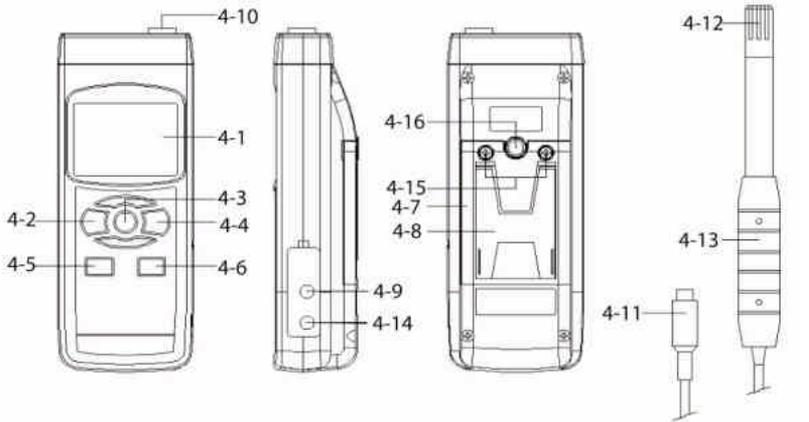

Fig. 1
1. Plug the "Probe Plug" (4-11, Fig. 1) into the "Probe Input Socket" (4-10, Fig. 1).
2. Power on the meter by pressing the "Power Button" (4-2, Fig.1) for 2 seconds. The LCD will show the units of measure on the display after a quick self test. It will display the %RH in the main display and temperature in the bottom section of the LCD.
To measure DEW Point follow the instructions shown in section 4-3 and then press the "Function Button" (4-5, Fig. 1) momentarily once. The LCD will show the word DEW in the main display and temperature below.
While taking measurements you can freeze the displayed value by pressing the "Hold Button" (4-3, Fig. 1) once. The HOLD symbol will be displayed along with the held measured value on the LCD. By pressing the "Hold Button" (4-3, Fig. 1) a second time will release the displayed value and turn off the data hold function.
1. To record the maximum and minimum readings, press the "REC Button" (4-4, Fig. 1). The REC symbol will be displayed on the LCD. By pressing the "REC Button" (4-4, Fig. 1) you can toggle through the Max and Min values.
2. To delete the recorded values press and hold the "Hold Button" (4-3, Fig. 1) for about 3 seconds.
3. To stop using the REC function, press and hold the "REC Button" (4-4, Fig. 1) for at least 3 seconds.
1. Press and hold the "SET Button" (4-6, Fig.1) for about 3 seconds to enter the settings menu (you will see the word code on the bottom of the LCD).
2. Pressing the "Enter Button" (4-4, Fig. 1) will bring you to the unit of measure for temperature (see section 5-1 if you wish to change the unit of measure).
3. Press the "Logger Button" (4-6, Fig.1) and SEC will be displayed on the bottom of the LCD.
4. To cycle through the number of seconds you would like meter to wait between loggings, press the "Function Button" (4-5, Fig. 1). By pressing the "Function Button" (4-5, Fig. 1) the following number of seconds will be displayed on the top of the LCD: 1, 2, 10, 30, 60, 600, 1800 or 3600.
5. Once the number seconds you require is displayed on the LCD, press the "Logger Button" (4-6, Fig.1).
6. Press the "Enter Button" (4-4, Fig. 1) to exit the settings menu, then press the "ESC Button" (4-3, Fig. 1).
7. Press the "REC Button" (4-4, Fig.1) momentarily to start the data log function. The REC symbol will be displayed on the LCD. The data logger function can save up to 1000 values of measure (either Humidity & Temp. or Dew Point & Temp).
8. Press the "Logger Button" (4-6, Fig.1) and the meter will start logging. You will see the A flashing on the top of the LCD every time a logging event has occurred. The A flashing will match the number of seconds you set in the setup of the data logger function.
1. Press the "REC Button" (4-4, Fig.1) momentarily to start the data log function. The REC symbol will be displayed on the LCD. The data logger function can save up to 1000 values of measure (either Humidity & Temp. or Dew Point & Temp).
2. Press the "Logger Button" (4-6, Fig.1) every time you would like the meter to record a value. You will see an A flash in the top of the LCD. The meter will not record another measurement until you press the "Logger Button" (4-6, Fig.1) again.
1. Press and hold the "SET Button" (4-6, Fig. 1) for about 3 seconds until the LCD displays "Code". Once you release the button you should see 1000 in the main display. 1000 is the password code to allow advanced measuring procedures. To leave the setting menu press the "ESC Button" (4-3, Fig.1).
2. Press the "Enter Button" (4-4, Fig. 1).
4. Now you are in the setting area to set or change the temperature unit of measure. Pressing the "Set Button" (4-6, Fig. 1) will cycle through the following setting sections:
1. Press and hold the "Set Button" (4-6, Fig. 1) for about 3 seconds until you see the word "COde" in the bottom of the LCD.
2. Press the "Enter Button" (4-4, Fig. 1). Now you may select between °C & °F by pressing the "Function Button" (4-5, Fig. 1). When a "0" is in the main LCD the unit will display temperature in °C. When a "1" is in the main LCD then the unit will display temperature in °F.
1. Press and hold the "Set Button" (4-6, Fig.1) for more than 3 seconds.
2. The main LCD should then display 1000. Now press the "Enter Button" (4-4-, Fig. 1)
3. Now press the "Set Button" (4-6, Fig.1). You will see SEC in the bottom left of the LCD.
4. Use the "Function Button" (4-6, Fig. 1) to cycle through the available seconds settings. Stop on either 0, 1, 2, 10, 30, 60, 600, 1800 or 3600. The value you select will tell the meter how often to log an event. Note that 0 SEC can only be used in the manual logging function.
5. Press the "Enter Button" (4-4, Fig.1) to confirm your selection and save it to the meters memory.
6. Press the "ESC Button" (4-3, Fig.1) to go to the normal measurement mode.
1. Press and hold the "Set Button" (4-6, Fig.1) for about 3 seconds.
3. Press the "Set Button" (4-6, Fig.1) twice and you will see the Cnt marker in the bottom of the LCD. The top number is the number of available data points.